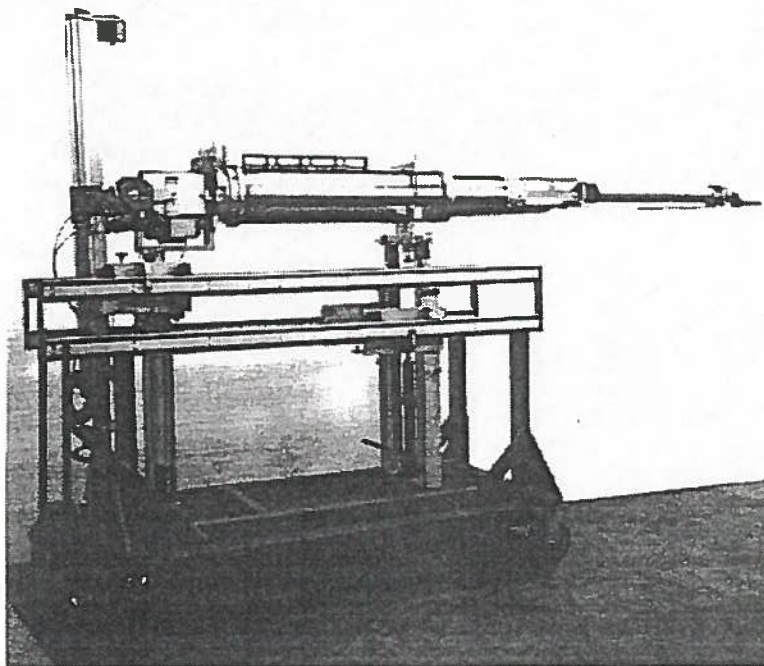

FIG. 15
4. Extend the manipulator in Y motion so the slave arm is horizontal (Fig. 15). With the master handle, adjust the tong so it is pointing straight ahead. Make sure the master boom tube is fully collapsed in Z motion and lock the motion lock to hold the tong and boom tube in position. Check the manipulator tube for levelness and adjust the slave and master jacks as required to level the thru tube.